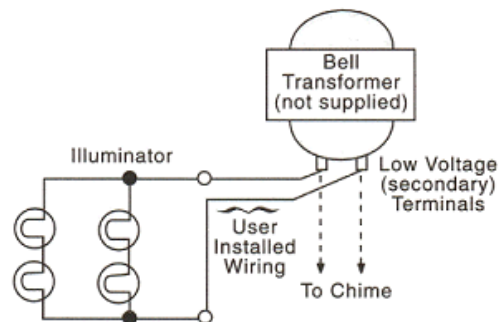

Figure No. 2
4. Figure No. 2 below: Run two (2) separate, NO. 18, or larger, bell wires into the 1/4" diameter clearance hole through the wall surface, connecting the far ends to the secondary terminals of the bell transformer as shown in Figure No. 2.